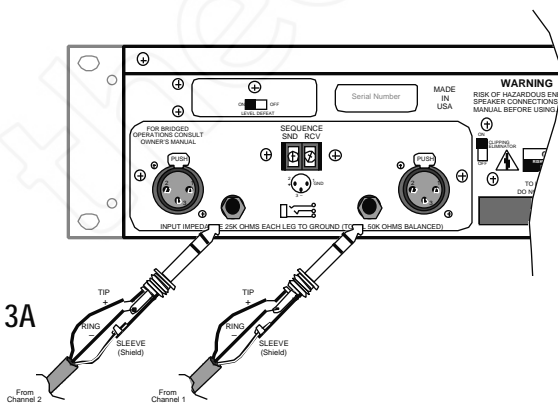

Figure 3A
**1/4-inch phone jack:** Use a 3-conductor TRS 1/4" phone plug. The tip of the plug carries the (+, hot, non-inverting) side of the signal, the ring carries the (-, low, inverting) side of the signal and the sleeve is ground (see Figure 3A).